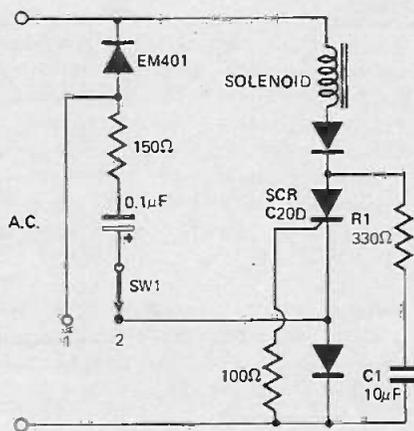

FIG 15
An unusual timing circuit is that shown in Fig 15. This circuit is often used in electrically powered stapling machines, impulse hammers etc, and causes load current to flow through the load for one complete half-cycle of the ac supply whenever SW1 is actuated (i.e. moved from its normal position (1) to energise-load position (2)). The circuit is arranged so that the SCR is always triggered at the beginning of a positive half-cycle of the ac supply, even though the switch may be closed randomly at any time during the previous two preceding half-cycles.